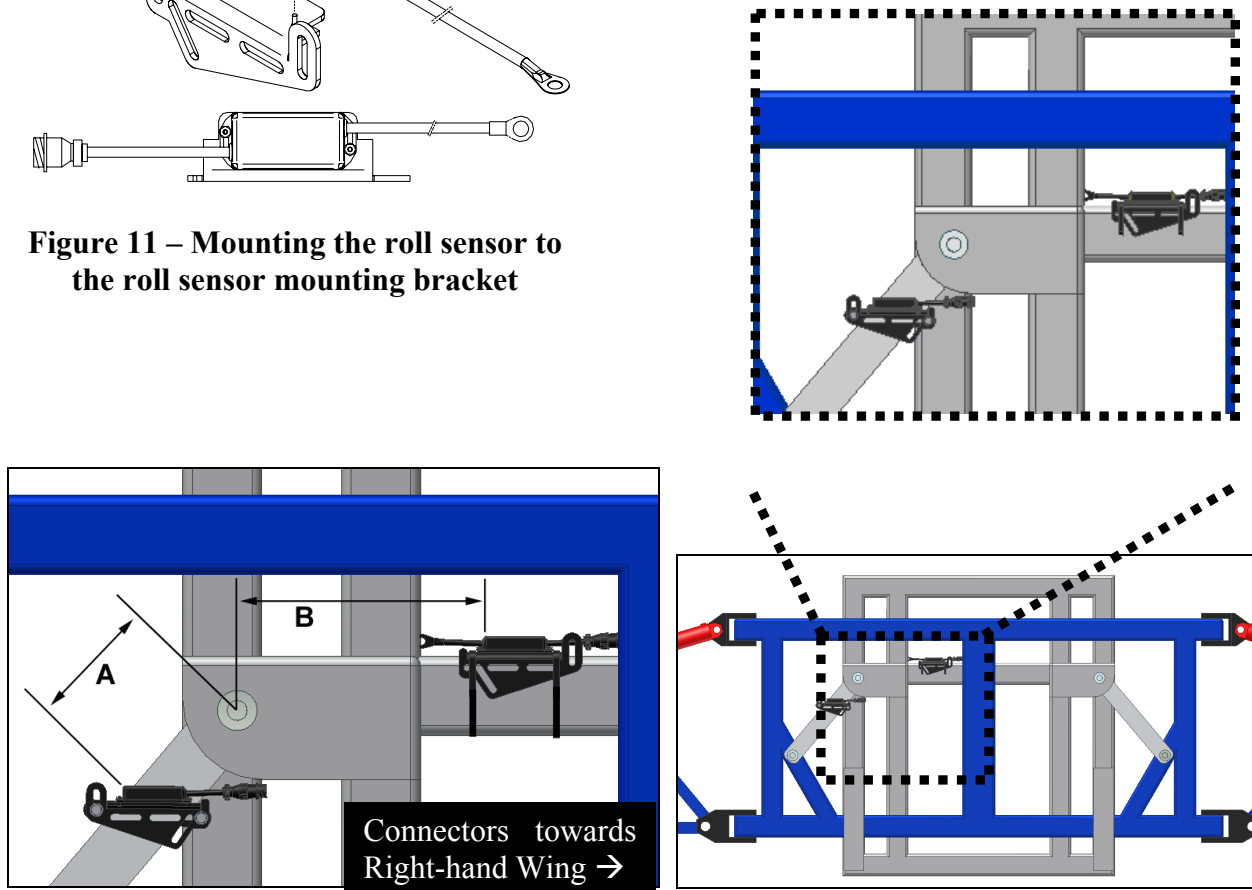

Figure 12 – General Roll Sensor mounting location on a Trapeze style boom
When mounting the roll sensors, use the following guidelines and refer to **Figure 12**.
- a) The smaller the distance between **A** and **B** in **Figure 12**, the better the performance will be.
! The chassis roll sensor must be mounted on a portion of the sprayer that does not pivot and is as close to the boom frame roll sensor as possible (**Figure 12**).